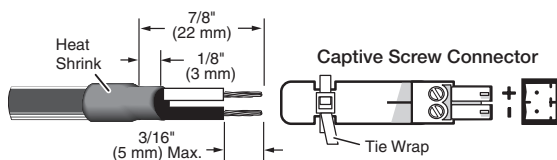

Figure 5. Wiring the Power Connector for the UCS T 911 and R 912
4. Wire the provided power supply to the 2-pole captive screw connectors (see figure 5).